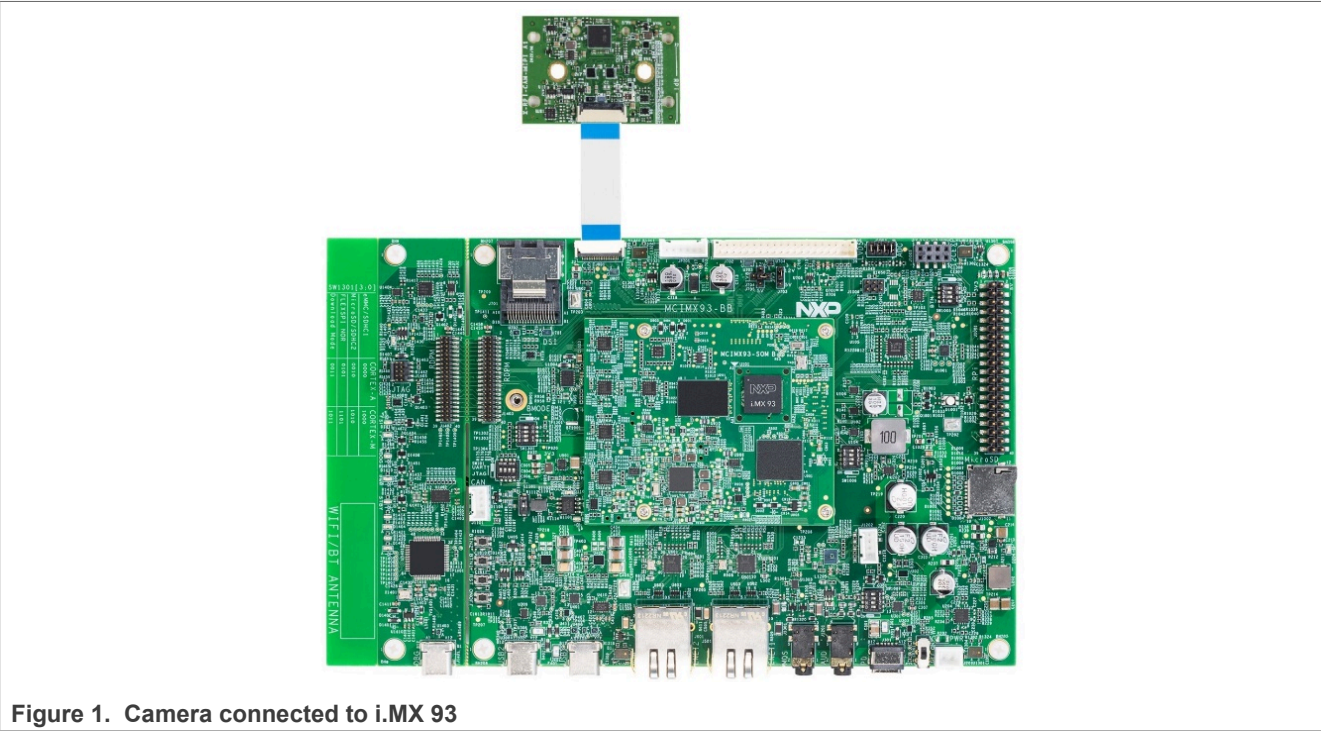

Figure 1. Camera connected to i.MX 93
4. Ensure that the camera connects to the target board as shown in Figure 1.